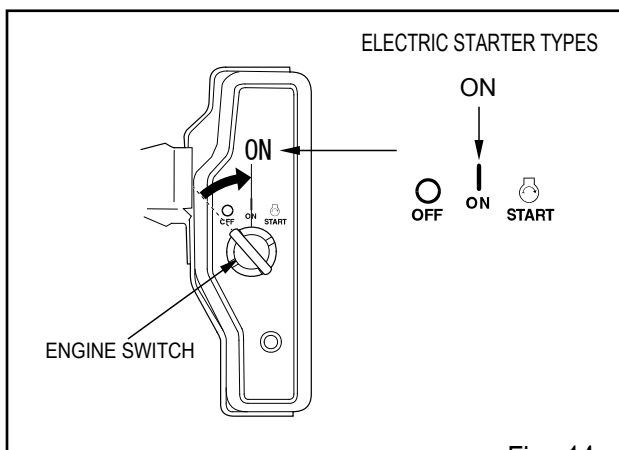

Fig. 14
3. Turn the engine switch to the ON position. (Fig.14)